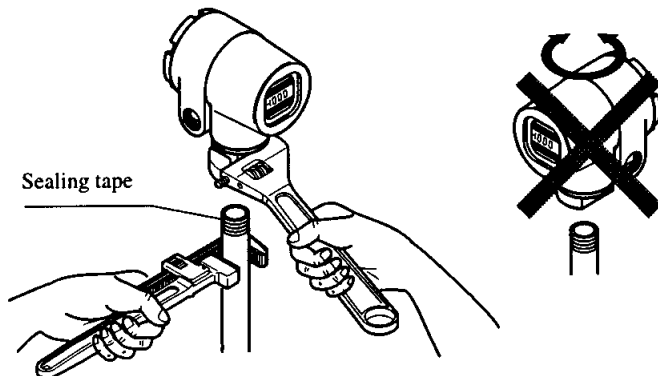

Fig. 2-1 Installation precaution 1
- Using wrenches, securely tighten the wetted part and connecting pipe of the transmitter. In so doing, use the wrenches to hold the parallel chamfers at the wetted part. Do not tighten by holding the case of this product as this may cause damage to the transmitter. Avoid holding the case when tightening without a wrench. (See Fig. 2-1.)